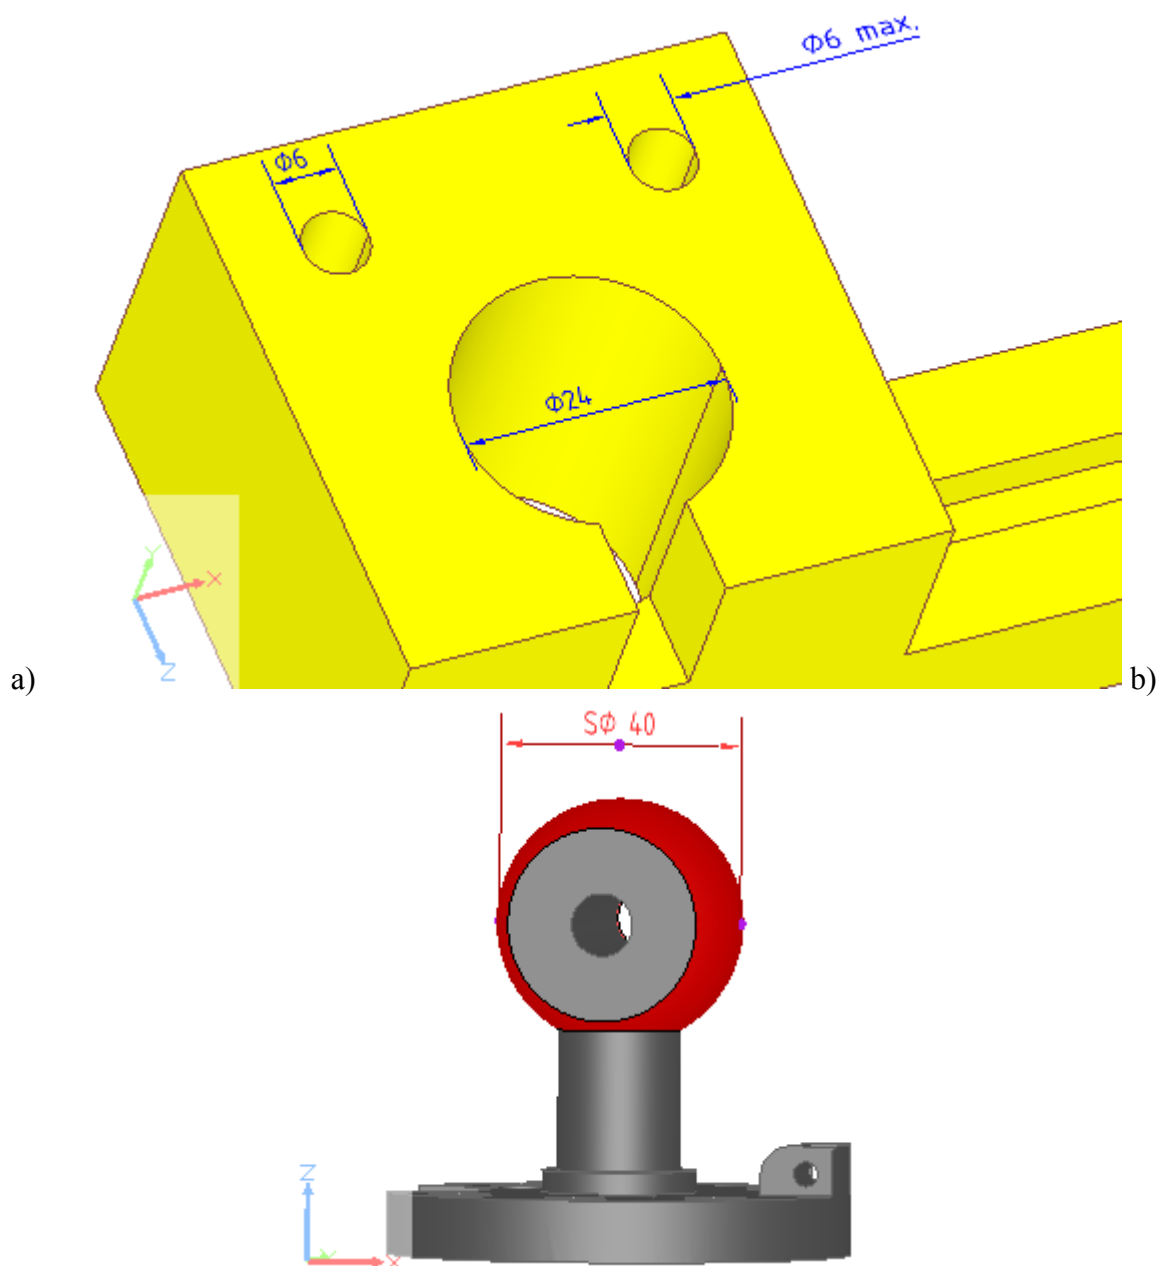

Figure 2. Diameter dimension presentation in 3D View: **a)** cylinder/circle diameter dimension, **b)** spherical diameter dimension
- *Diameter dimension* (see Figure 2). The graphical symbol \varnothing precedes the dimensional value. In case of the *Spherical diameter dimension*, the S letter precedes the symbol \varnothing .